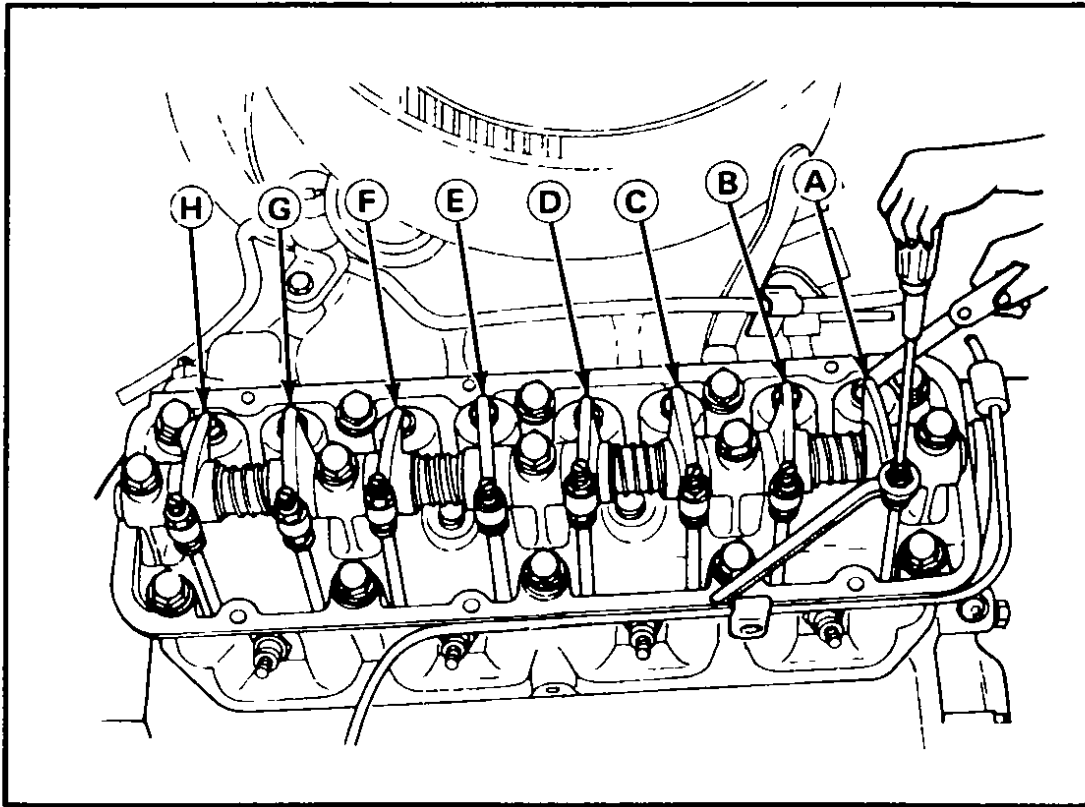

Fig 132 Valve adjustment sequence
- 4 Adjust the valve clearance at the following four points by loosening each locknut and adjusting the adjusting screw with a screwdriver, Fig 132
6 Adjust the clearances on these cylinders, Fig 132